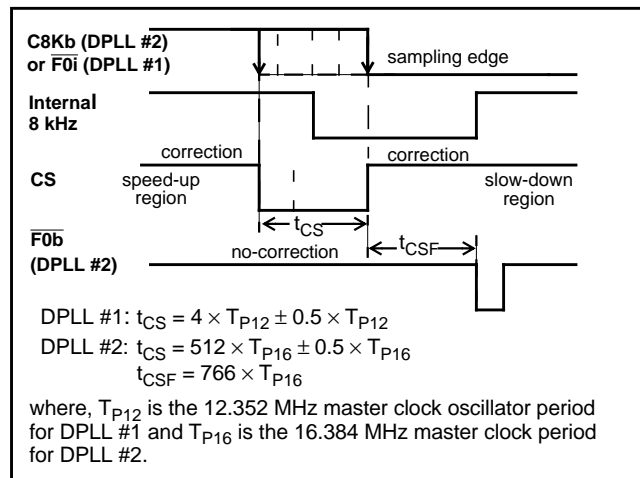

Figure 4 - Phase Comparison
As shown in Figure 4, the falling edge of the 8 kHz input signal (C8Kb for DPLL #2 or \overline{FOi} for DPLL #1) is used to sample the internally generated 8 kHz clock and the correction signal (CS) once in every frame (125 μ s). If the sampled CS is "1", then the DPLL makes a speed-up or slow-down correction depending upon the sampled value of the internal 8 kHz signal. A sampled "0" or "1" causes the frequency correction circuit to respectively stretch or shrink the master clock by half a period at one instant in the frame. If the sampled CS is "0", then the DPLL makes no correction on the master clock input. Note that since the internal 8 kHz signal and the CS signal are derived from the master clock, a correction will cause both clocks to stretch or shrink simultaneously by an amount equal to half the period of the master clock.
The no-correction window size is 324 ns for DPLL #1 and 32 μ s for DPLL #2. It is possible for the relative phase of the reference signal to swing inside the no-correction window depending on its jitter and the relative drift of the master clock. As a result, the phase relationship between the input signal and the output clocks (and frame pulse in case of DPLL #2) may vary up to a maximum of window size. This situation is illustrated in Figure 4. The maximum phase variation for DPLL #1 is 324 ns and for DPLL #2 it is 32 μ s. However, this phase difference can be absorbed by the input jitter buffer of Mitel's T1/CEPT devices.